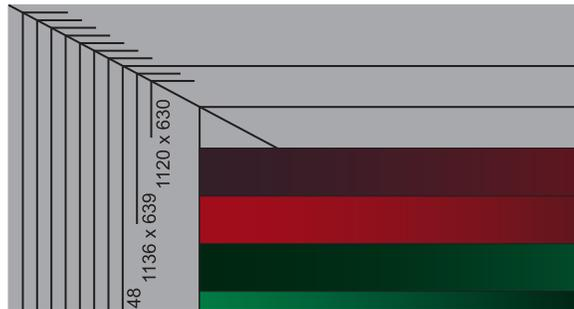

Figure 6-1. Largest available resolution.
4. On the TV that crops the most, note the largest resolution that is visible. It will look like the screen in Figure 6-1: